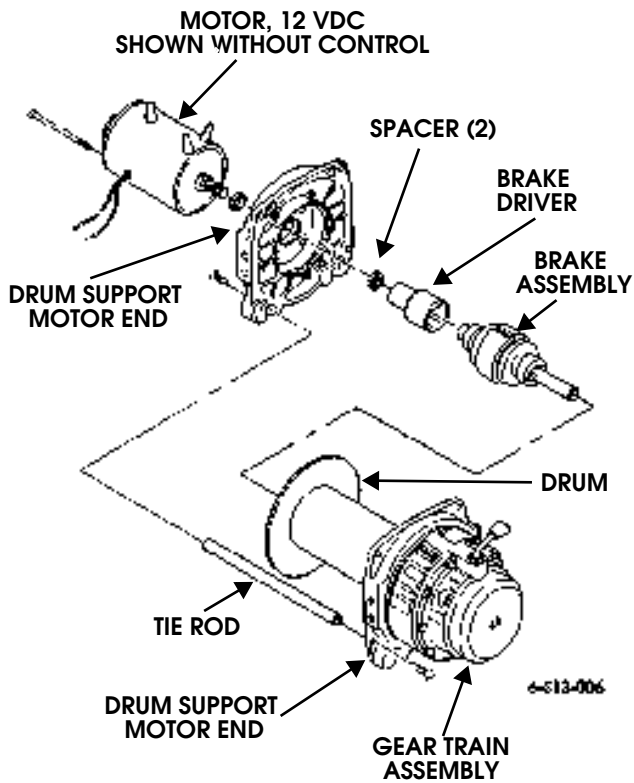

Figure 9-176: Drum Assembly and Gear Train Assembly
20. Install drum assembly on gear train assembly. Rotate drum assembly as needed to engage driveshaft, brake, and output spline (Figure 9-176).